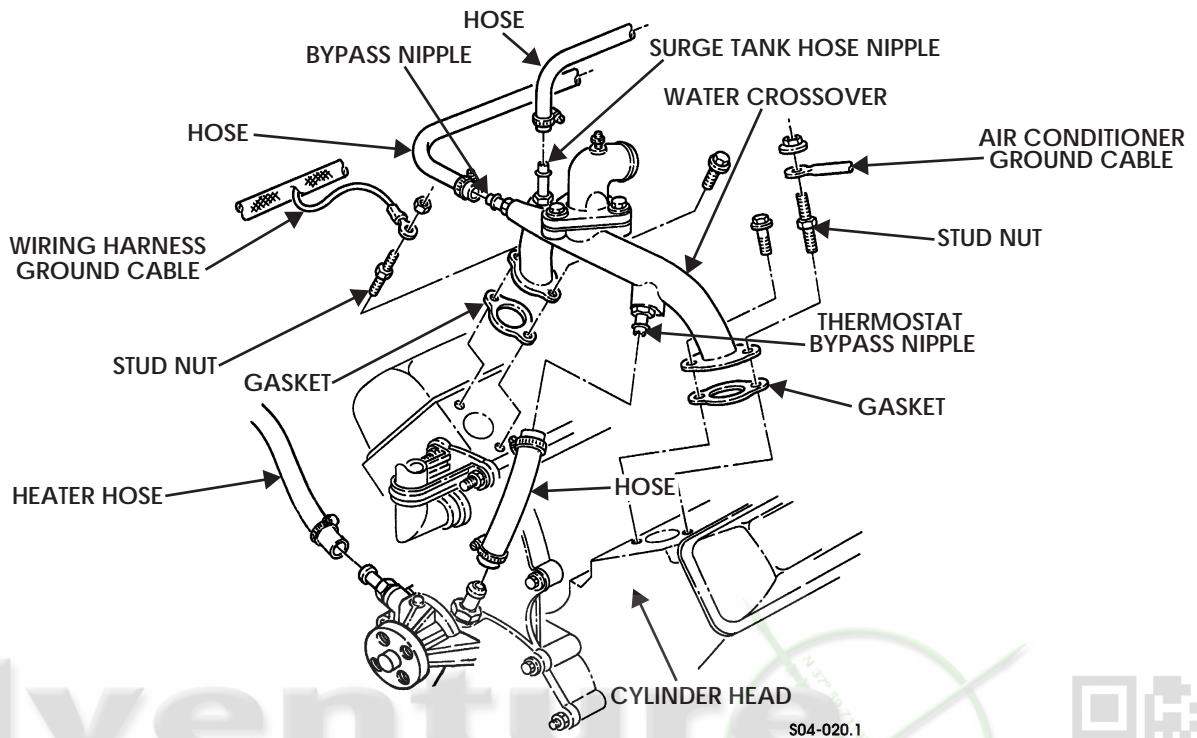

Figure 4-22: Water Crossover
3. Disconnect three hoses from water crossover (Figure 4-22).
1. Clean gasket surface on water crossover and cylinder heads (Figure 4-22).
1. Install two gaskets and water crossover on cylinder heads with two capscrews and stud nuts. Tighten capscrews to 25-37 lb-ft (34-50 N•m) (Figure 4-22).
5. Disconnect heater and bypass hoses from water pump (Figure 4-22).